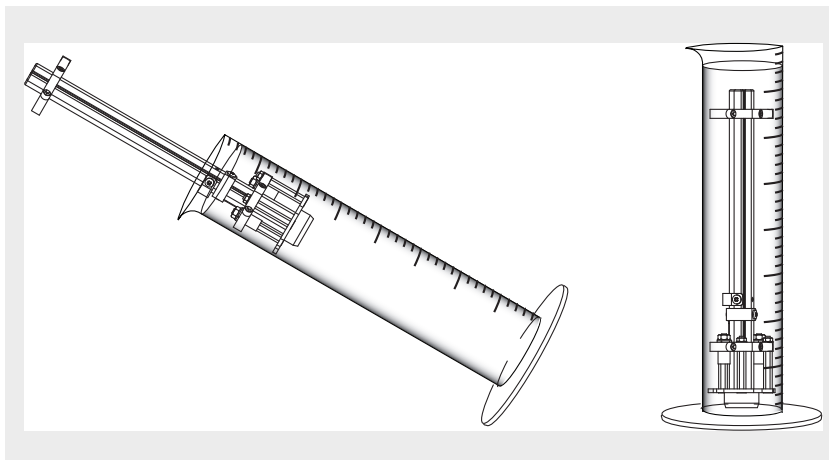

Fig. 67 Cleaning the RF/dc prefilter
2. Carefully slide the RF/dc prefilter into a 500 mL graduated glass cylinder containing 100% methanol. See Figure 67.